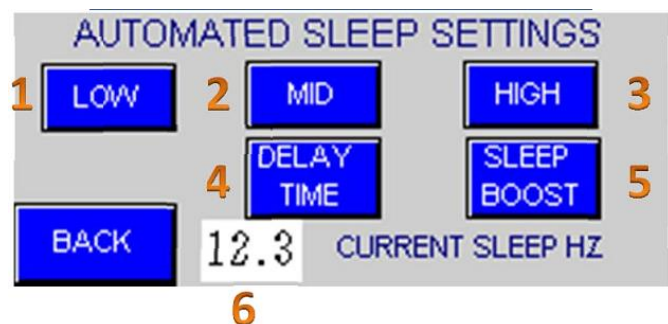

Figure 22. Pump Sleep Adjustments Screen
1. **Sleep Settings Menu.** Displays the automated sleep setting options, Figure 22.